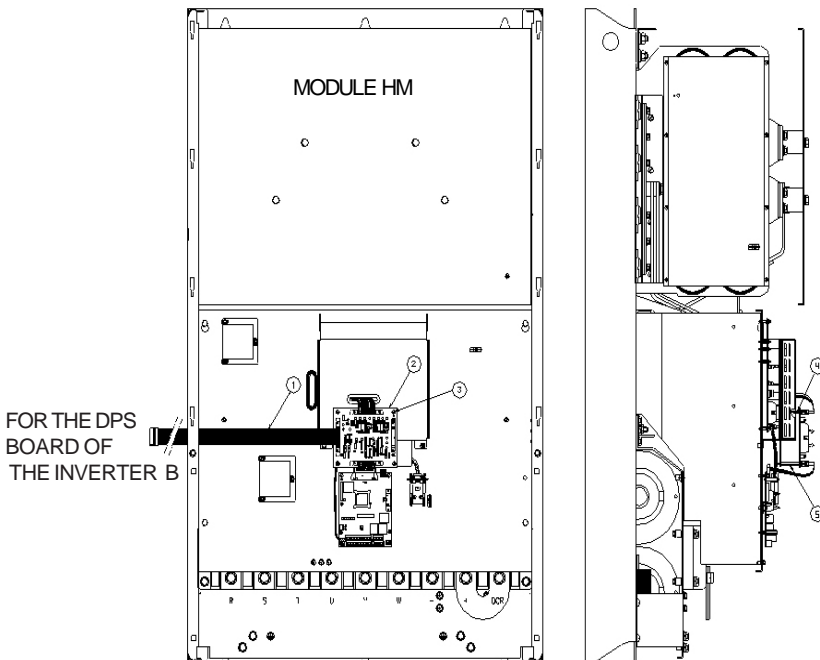

Figure 16 - Mounting with two modules
- ☑ Figures 16 and 17 show the mounting configurations of the HM module and the item positions of the KMP kits. When shelf power modules are applied, the HM inverter is fitted with the PIB board. The control boards of the HS module are removed and the HMIs are replaced by blind caps. The figure shows size 10 of 380-480V series. The connections are similar for the other voltages.